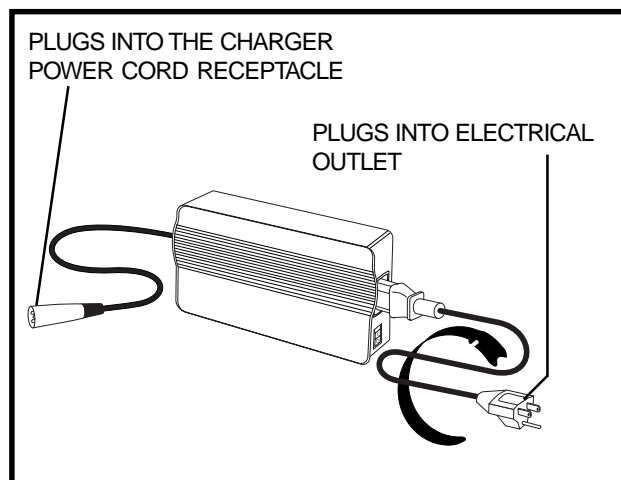

Figure 7A. Off-Board Charger
5. Plug the 3-pin charger power cord into the charger power cord receptacle. See figures 7A and 8.